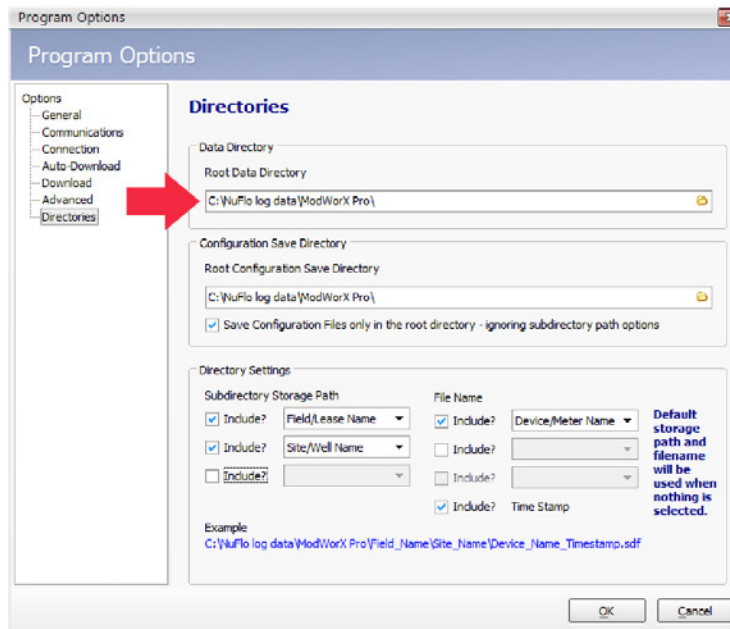

Figure A.25
3. To change the directory to which non-configuration data is saved, click in the Data Directory portion of the dialog (Figure A.25), type the desired filepath or click the Folder icon to browse to the desired directory.